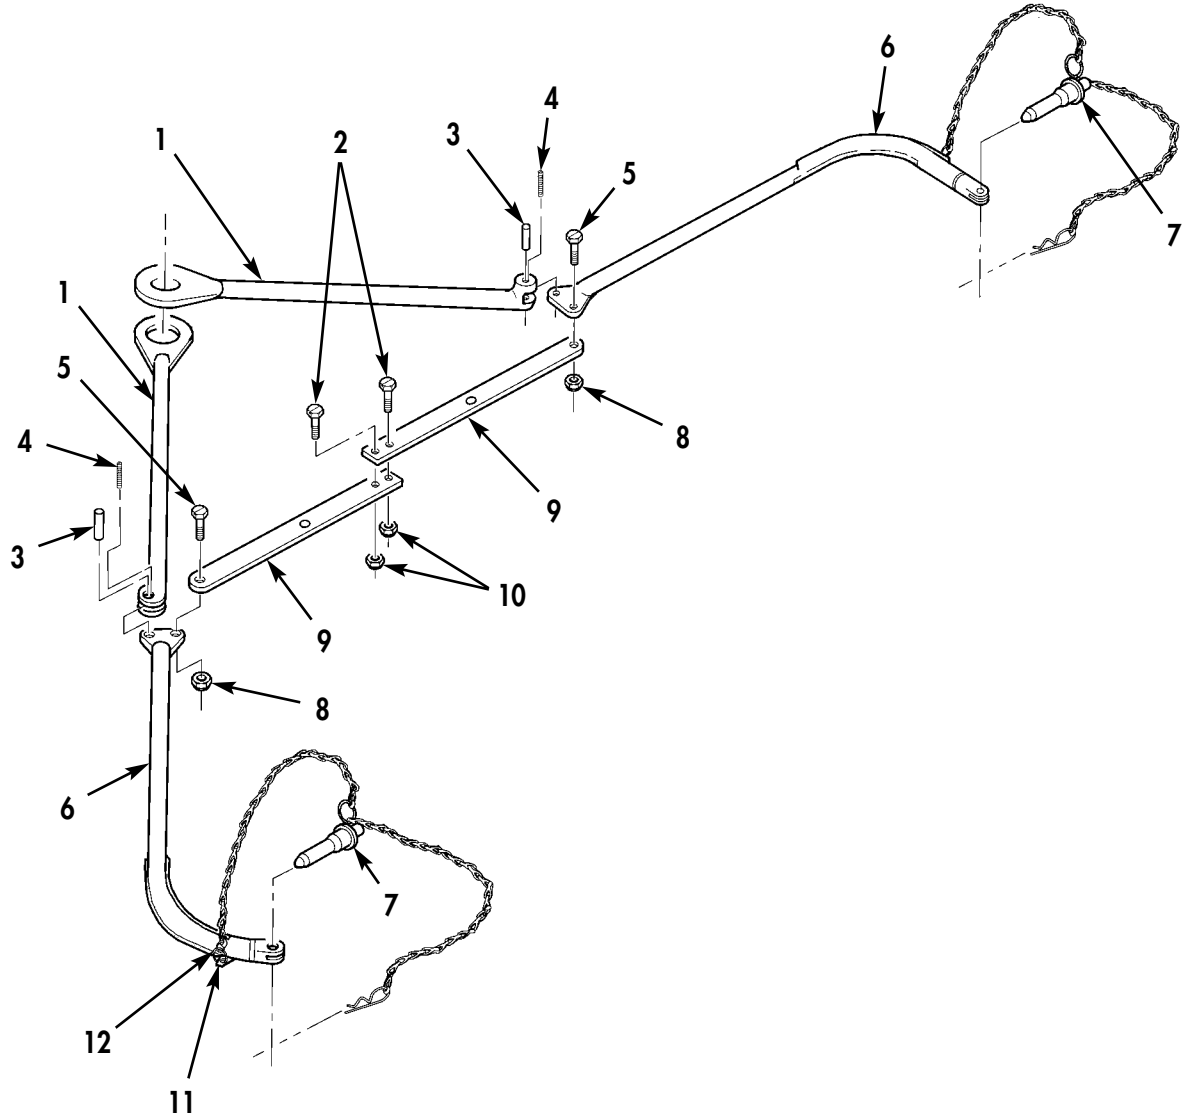

Figure 2. Towing and Lifting Yoke Assembly.
1. Install two connecting legs (Figure 2, Item 6) on upper legs (Figure 2, Item 1) with two straight pins (Figure 2, Item 3) and setscrews (Figure 2, Item 4).
2. Install two braces (Figure 2, Item 9) on two connecting legs (Figure 2, Item 1) with two screws (Figure 2, Item 5) and new locknuts (Figure 2, Item 8).
3. Install two mounting screws (Figure 2, Item 2) on two braces (Figure 2, Item 9) with new locknuts (Figure 2, Item 10).
4. Install two clevis pin assemblies (Figure 2, Item 7) on two connecting legs (Figure 2, Item 6) by connecting chain hook (Figure 2, Item 12) to eye (Figure 2, Item 11) on each connecting leg (Figure 2, Item 6). Secure two clevis pin assemblies (Figure 2, Item 7) by closing two chain hooks (Figure 2, Item 12).